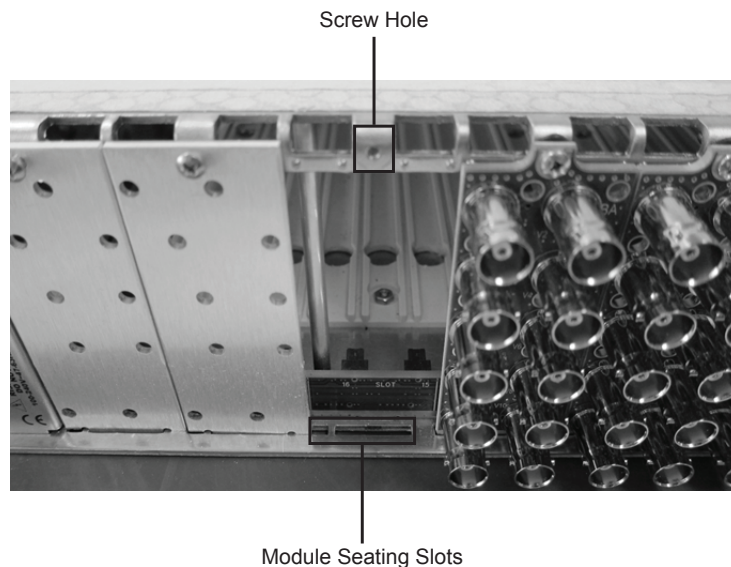

Figure 2.1 Rear Module Installation in an openGear Frame (ADA-8402-B not shown)
3. Install the bottom of the rear module in the **Module Seating Slot** at the base of the frame’s back plane. (**Figure 2.1**)